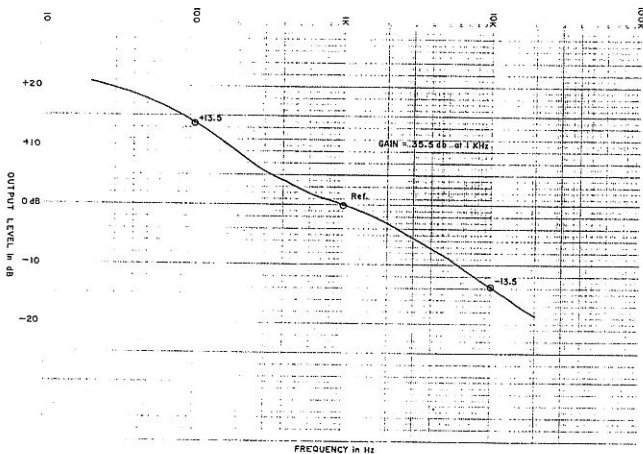

Figure 6-5. Phono 1 Response
- C) Referring to Figure 6-5 below, verify that the output signal levels are within  $\pm 0.5$ dB of the values indicated at each of the test points (circled). Adjust input frequency and repeat until all 3 test points have been verified. Table 6-5 lists the acceptable ranges.